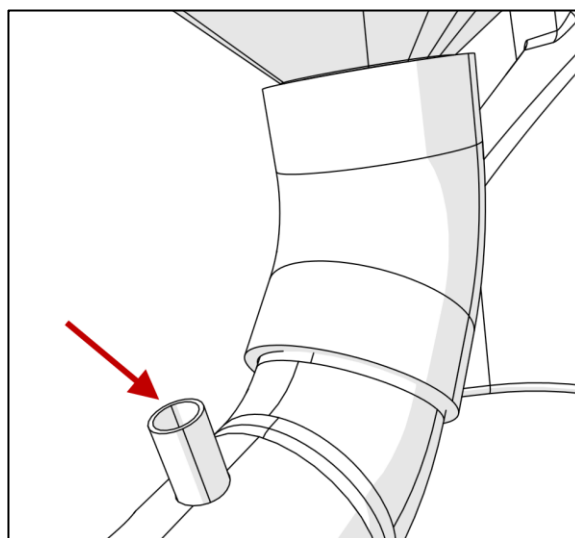

FIGURE 23
32. Plug the other end of the new hose to the tube that runs to the sump tank (Figure 23). Tighten the collar to this torque value: